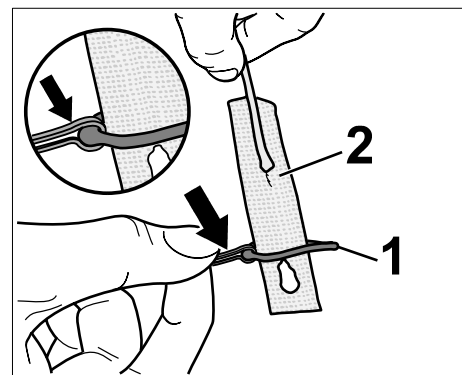

Figure 4
- 2.4 Guide in the rubber cord ring $\Rightarrow$ Figure 4
$\Rightarrow$ Figure 4 **-Pos. 2-**.
that the **flat** side $\Rightarrow$ Figure 4 **-Arrow-** of the